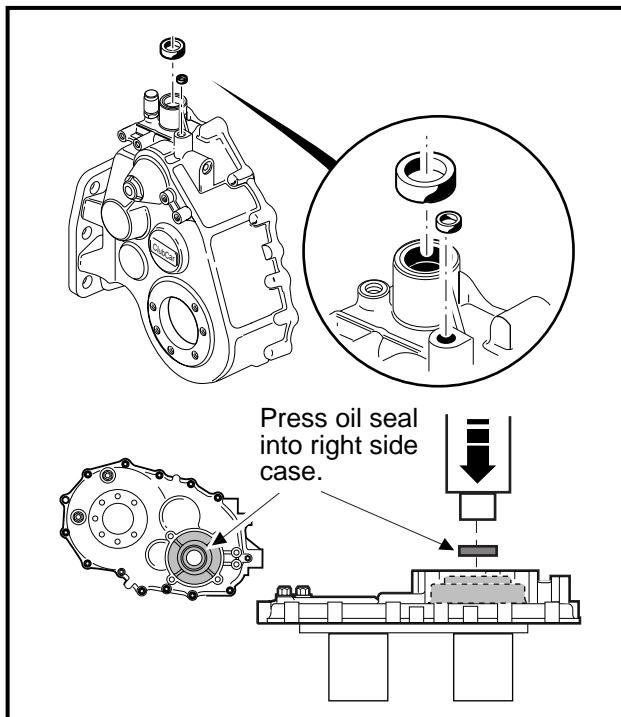

Figure 16-75 Install Seals
2. Put a light coating of clean transmission oil on the outside edge of the seal to make installation easier. Press two new oil seals (18 and 23) (**Figure 16-40, Page 16-16**) into the left (driver) side case. Use an oil seal installation tool (CCI 1014160) to install a new oil seal (58) (**Figure 16-48, Page 16-20**) into the right (passenger side) case. **See also Figure 16-75, Page 16-32.**